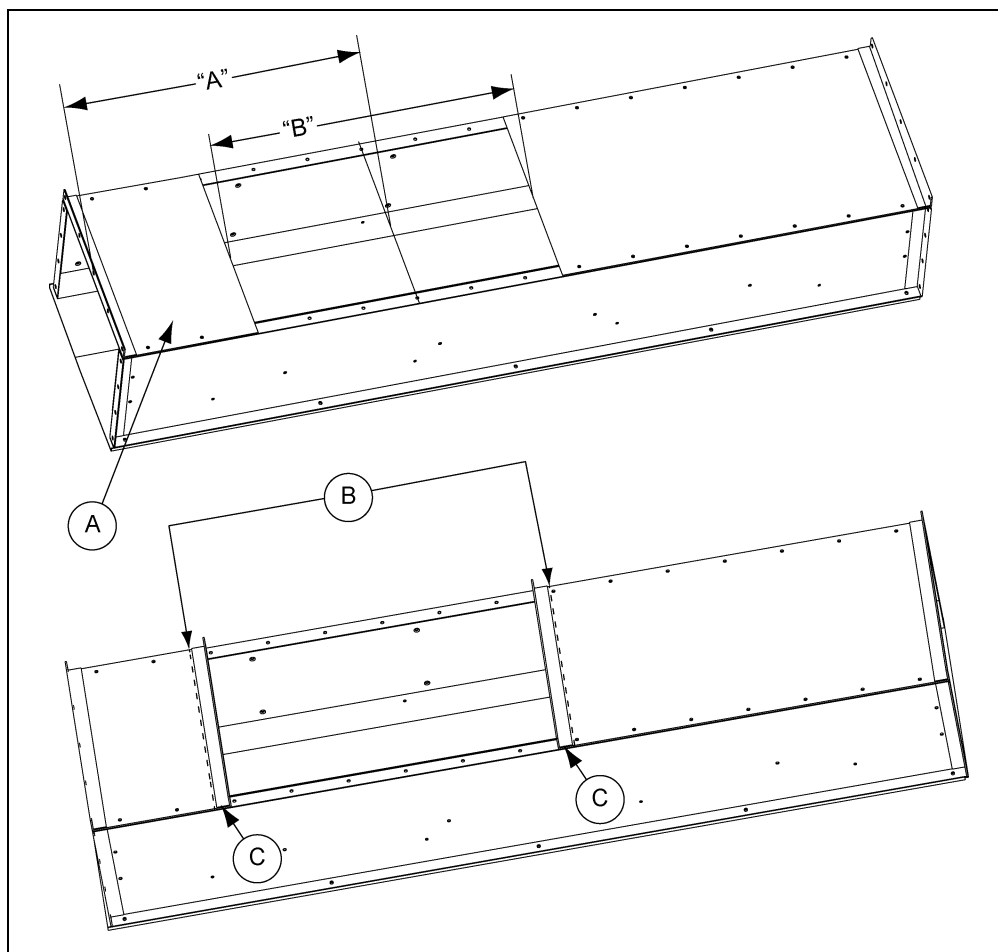

Figure 3B
1. Start by locating the center of the proposed discharge location. Dimension "A" shown in Figure 3B.
5. Weld the extra angle iron flanges (C) provided with the gate to each trough bottom cut, as shown in Figure 3B, so that the gate can be bolted to each side. Stitch weld edges 51 mm (2") long with 38 mm (1-1/2") spacing.